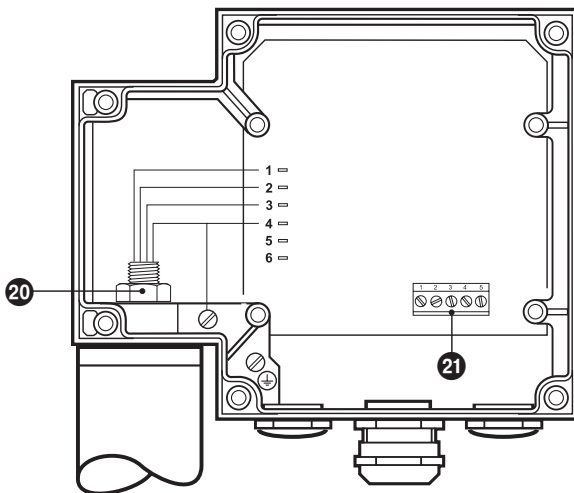

Fig. 13
2. Loosen nut ⑳ with a 19 mm spanner, but do not remove! **Fig. 13**